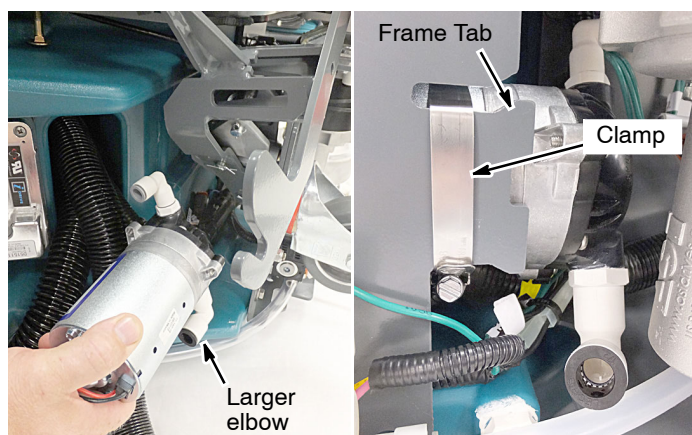

Fig. 26
10. Insert the pump assembly from the rear of machine and mount it to the machine frame tab with hose clamp as shown. Rotate the elbow fittings as shown (Figure 26).